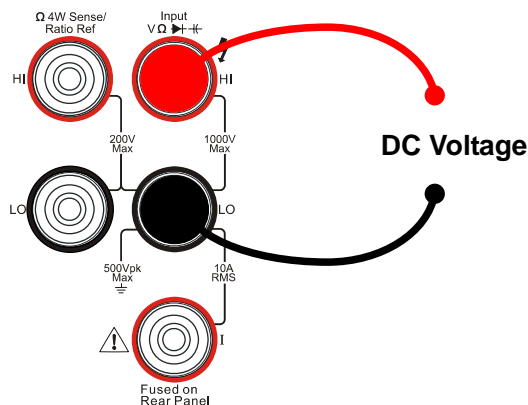

Figure 1-8
1. Connect test leads as Figure 1-8 shown. Red test lead connects the HI Terminal, Black test lead connects the LO Terminal.